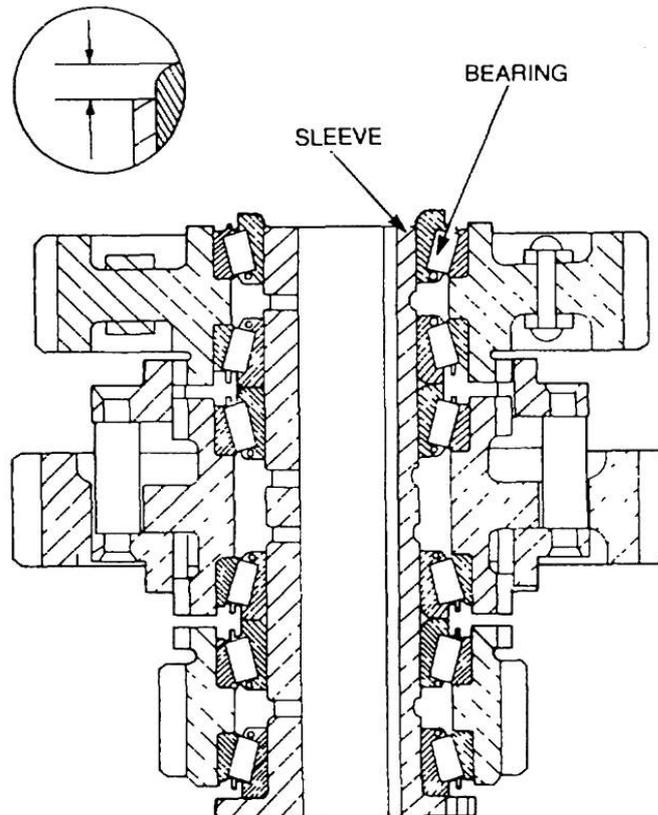

Figure 214 Intermediate Gear Assembly Pre-load Setting - Sectional View
- j. Using a dial indicator, measure the gap between the shoulder of the sleeve and the face of the bearings (Figure 214). Select a shim washer to obtain a pre-load of 0.10 to 0.20 mm (0.004 to 0.008 in).